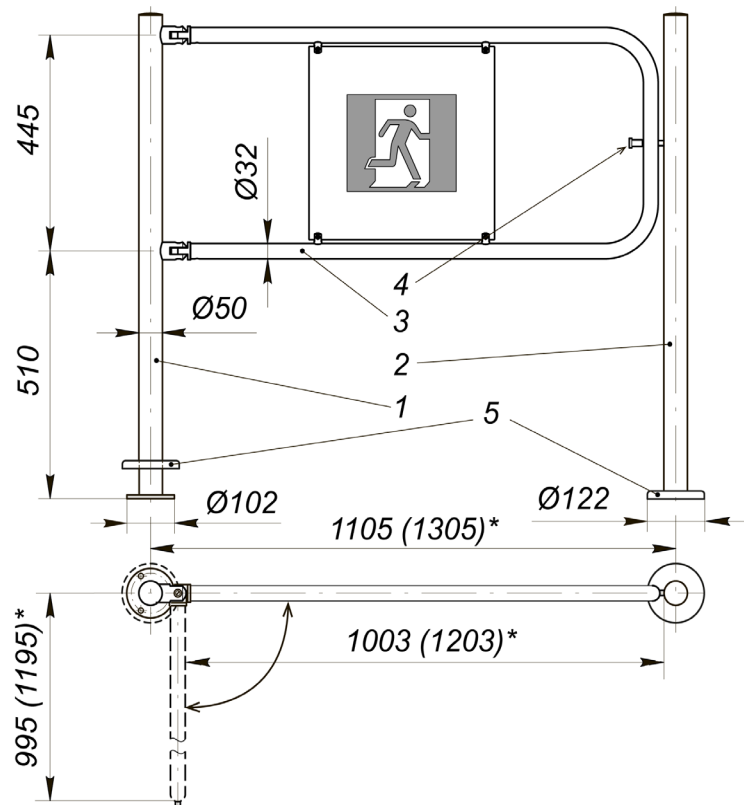
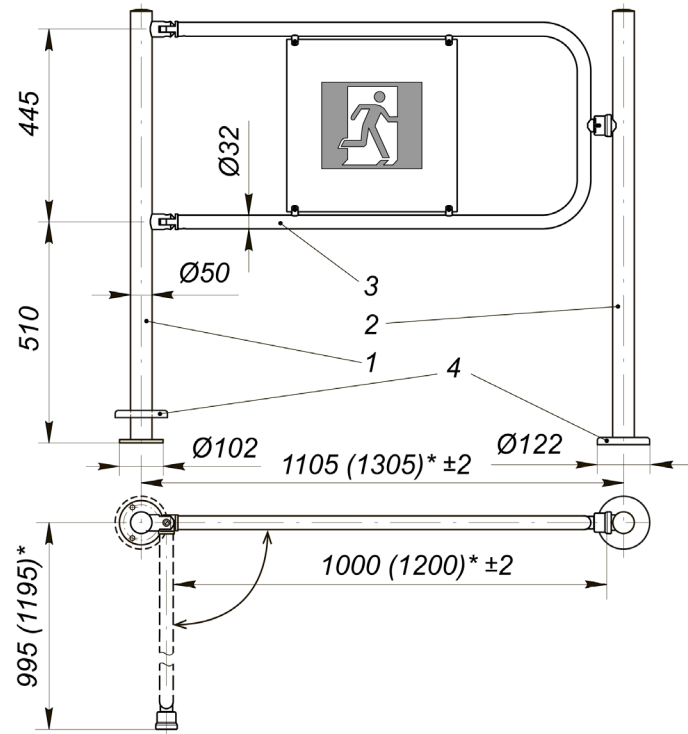
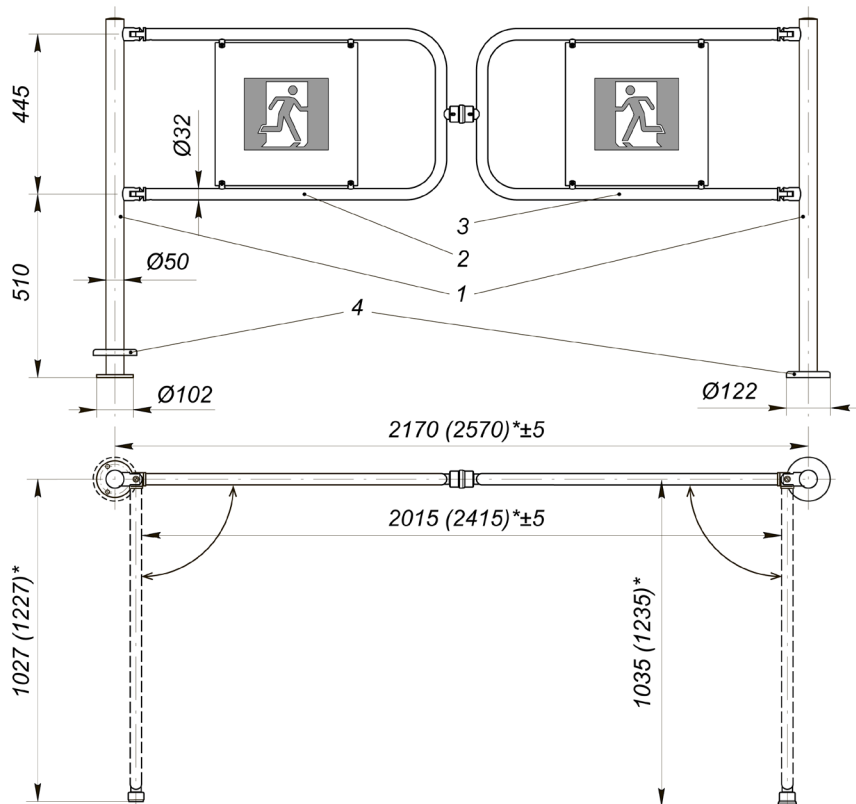

Figure 5. Rotary railing section with mechanical BD¹:
Figure 6. Automatic rotary railing section with electromagnetic BD¹:
Figure 7. Double rotary section with magnetic BD²:
- **Rotary railing section**, designed to form passageways and provide emergency exit. There are two versions: the rotary section with mechanical BD (see Figure 5), the rotary section with electromagnetic BD (see Figure 6) and double rotary section with magnetic BD (see Figure 7).